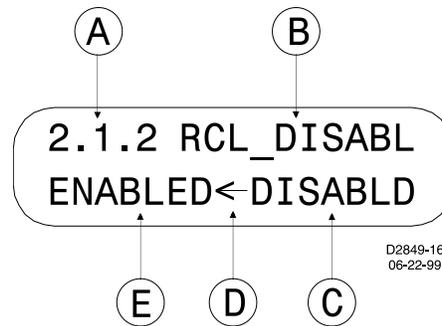

Figure 10-10. Virtual Control Switch 143 Screen
Figure 10-10 shows Virtual Switch 143 as an example of a virtual switch screen. See Section 4, *Protection and Control*, for more details on the x43 and 101 functions. Table 10-3 describes each of the locators shown on Figure 10-10. The user programmable label for this switch has been set to RCL_DISABLE. The TRUE (closed) state label has been set to DISABLD. The FALSE (open) state label has been set to ENABLED. The logical mode for this application would be set to Mode 2 (On/Off switch).
Table 10-3. Call-out Descriptions for Figure 10-10
D	An arrow icon indicates the current switch position (status). In Figure 10-10, the status is open (0), which is labeled 'ENABLD'.